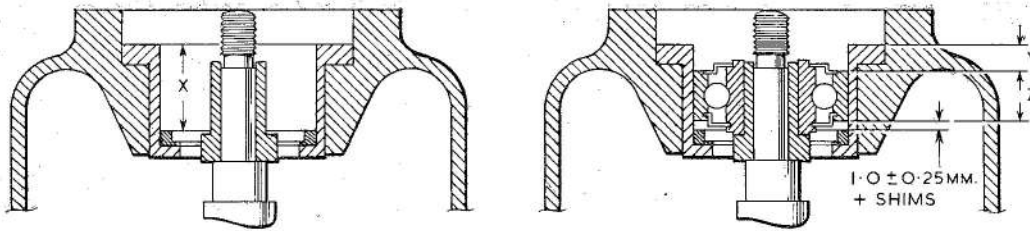

Fig. 10. Rotor shaft end loading
(4) Carefully pass the rotor assembly through the bore of the stator assembly, locating the dowel (3) in the rim of the motor case in the location hole in the lower motor case (2). Bring the three stator leads out through the slot in the lower motor case and secure this latter component (2) to the motor case (18) with the eight countersunk head screws (19). Tighten securely. The three leads should be identified by numbered rubber sleeves (20).
(5) Supporting the motor unit vertically in a suitable holding block, drop the bearing ring (5) into position in the motor bearing housing (8). Using a depth micrometer check the distance between the flanged surface of the bearing housing and the top face of the bearing ring (5) (dim. X fig. 10).
(6) Fit the selected bearing (12) (para. 22(1)) over the rotor shaft and press into the housing so that it contacts the shoulder of the rotor shaft. With a depth micrometer check the distance between the flanged surface of the bearing housing and the outer race of the housing (12) (dim. Y fig. 10).
(7) The gap between the bearing ring (5) and the bearing is now given by subtracting dim. Y plus the thickness of the outer race of the bearing (dim. Z) from dim. X. This dimension less 1.0 ± 0.25 mm. allowance for the compressed pre-load washer (16) will give the thickness of adjusting washers (4) required to correctly pre-load the washer. If the gap for the pre-load washer works out at less than 1.0mm. it will be necessary to machine the front face of the motor case and stator assembly at right angles to the stator bore to obtain the necessary pre-load conditions.
(8) Withdraw the bearing (12) and bearing ring (5) from the motor bearing housing. Insert the pre-load washer (16) followed by adjusting washers (4) of the total thickness previously calculated (sub-para. 7). Re-position the bearing ring (5) with the counter-bored face uppermost and replace the selected bearing (12).
(9) Secure the inner race of the bearing with a $\frac{5}{16}$ in. B.S.F. plain washer (10) and the self-locking nut (9). Securely tighten.
(10) Check that the rotor rotates without any indication of interference.